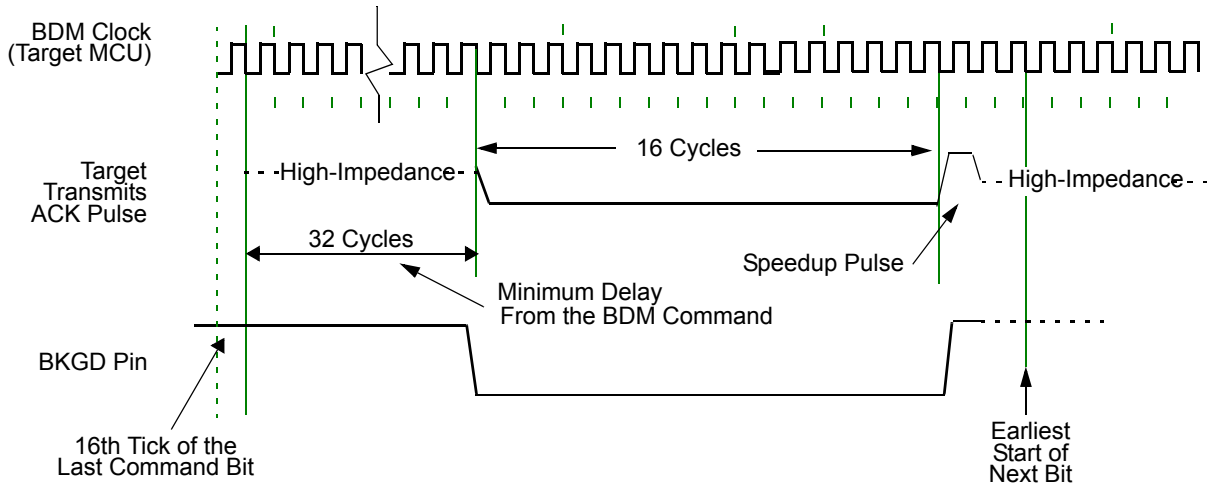

Figure 58. Target Acknowledge Pulse (ACK)
The hardware handshake protocol signals to the host controller when an issued command was successfully executed by the target. This protocol is implemented by a 16 serial clock cycle low pulse followed by a brief speedup pulse in the BKGD pin. This pulse is generated by the target MCU when a command, issued by the host, has been successfully executed (see Figure 58). This pulse is referred to as the ACK pulse. After the ACK pulse has finished: the host can start the bit retrieval if the last issued command was a read command, or start a new command if the last command was a write command or a control command (BACKGROUND, GO, GO\_UNTIL(182) or TRACE1). The ACK pulse is not issued earlier than 32 serial clock cycles after the BDM command was issued. The end of the BDM command is assumed to be the 16th tick of the last bit. This minimum delay assures enough time for the host to perceive the ACK pulse. Note also that, there is no upper limit for the delay between the command and the related ACK pulse, since the command execution depends upon the CPU bus, which in some cases could be very slow due to long accesses taking place. This protocol allows a great flexibility for the POD designers, since it does not rely on any accurate time measurement or short response time to any event in the serial communication.
Differently from the normal bit transfer (where the host initiates the transmission), the serial interface ACK handshake pulse is initiated by the target MCU by issuing a negative edge on the BKGD pin. The hardware handshake protocol in Figure 58 specifies the timing when the BKGD pin is being driven, so the host should follow this timing constraint in order to avoid the risk of an electrical conflict on the BKGD pin.